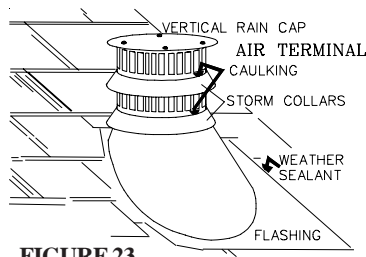

FIGURE 23
6. Apply a heavy bead of weatherproof caulking 2 inches above the flashing. Slide the storm collar around the air terminal and down to the caulking. Tighten to ensure that a weather-tight seal between the air terminal and the collar is achieved. Attach the other storm collar centered between the air intake and the air exhaust slots onto the air terminal. Tighten securely. **FIGURE 23.** Attach the vertical rain cap.
6. Remove nails from the shingles, above and to the sides of the chimney. Place the flashing over the air terminal and slide it underneath the sides and upper edge of the shingles. Ensure that the air terminal is properly centered within the flashing, giving a 3/4" margin all around. Fasten to the roof. Do NOT nail through the lower portion of the flashing. Make weather-tight by sealing with caulking. Where possible, cover the sides and top edges of the flashing with roofing material. **FIGURE 23.**